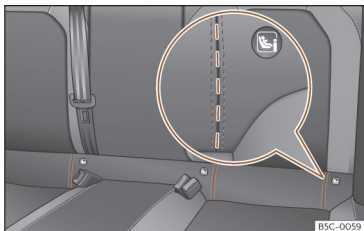

Fig. 31 Rear seat: die cut slots to access the ISOFIX / iSize securing rings.
rings are secured to the seat frame and, in others, they are secured to the rear floor. The “ISOFIX” rings are located between the rear seat backrest and the seat cushioning >>> **Fig. 31**. The Top Tether rings are located on the rear part of the rear seat backrests
- Open the cut-out section behind the marked grooves to access the retaining rings >>> **Fig. 31**.